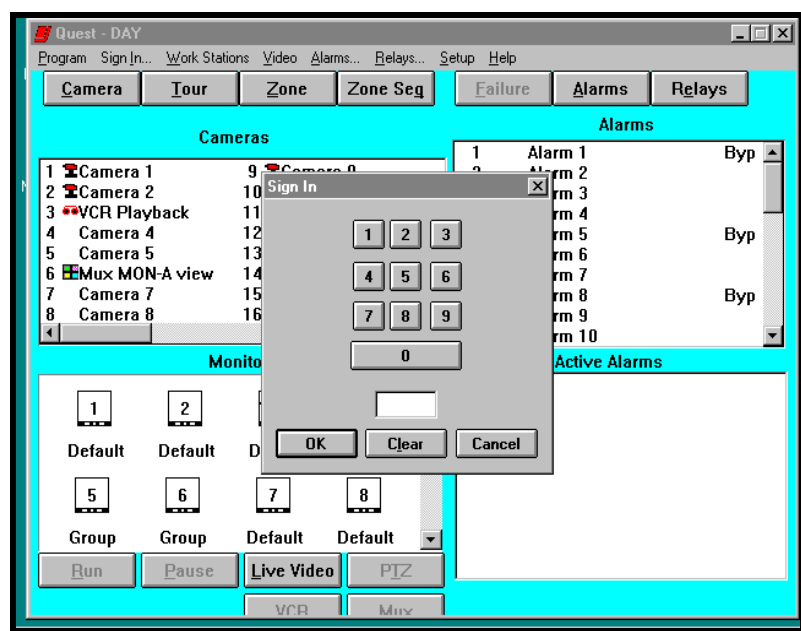

Figure 3-39. Sign Out Dialog Box
1. Click on **Sign In** from the menu bar to display the Sign In dialog box (Figure 3-39).